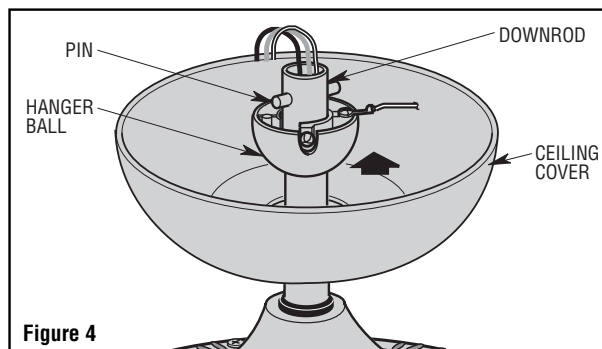

Figure 4
- Reinstall the hanger ball (Figure 4) on the downrod as follows. Route the three 80" motor leads through the hanger ball. Position the pin through the two holes in the downrod and align the hanger ball so the pin is captured in the groove in the top of the hanger ball. Pull the hanger ball up tight against the pin and securely tighten the setscrew in the hanger ball. A loose setscrew could create fan wobble.